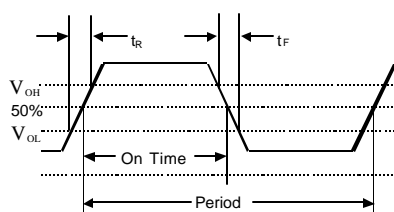
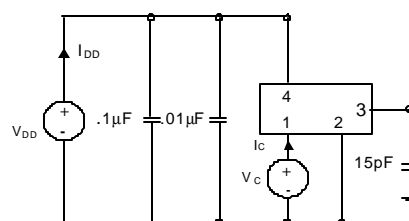

Figure 3. Output Waveform
Figure 4. Typical Output Test Conditions (25±5°C)
2. Figure 3 defines these parameters. Figure 4 illustrates the operating conditions under which these parameters are tested and specified. For $f_o > 90\text{MHz}$, rise and fall time is measured 20 to 80%.